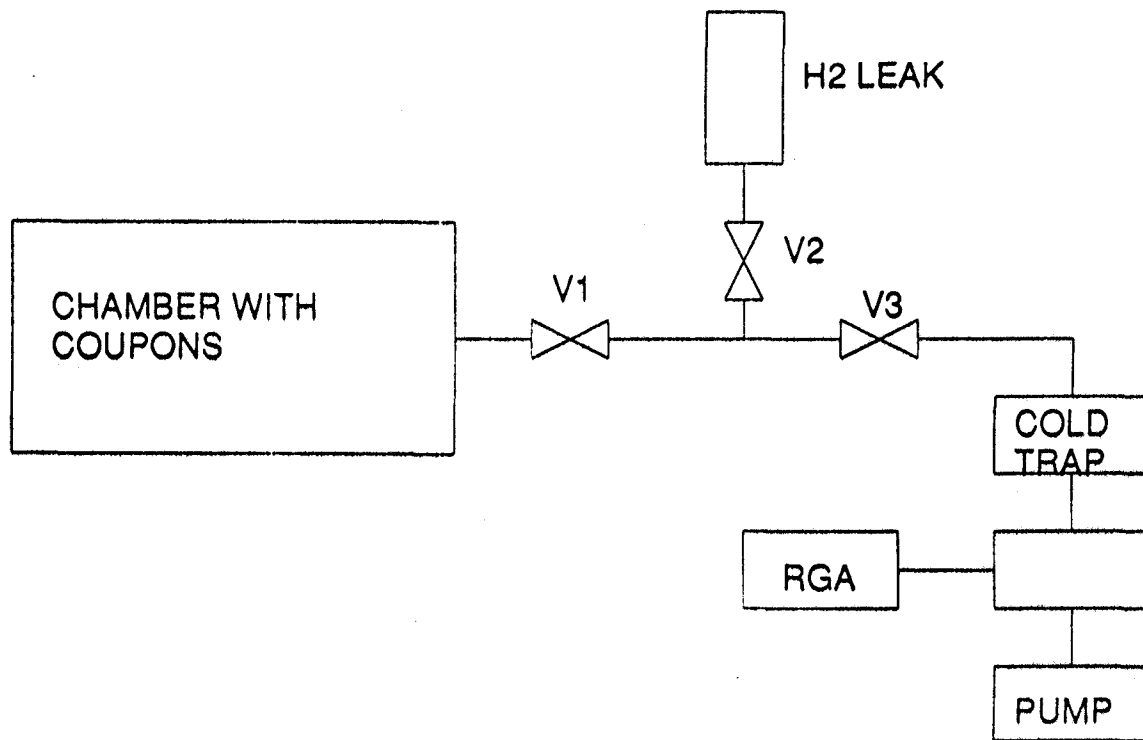

Fig. 1. Coupon outgassing measurement arrangement.
- a. Outgassing measuring equipment, with the rough outline shown in Fig. 1.